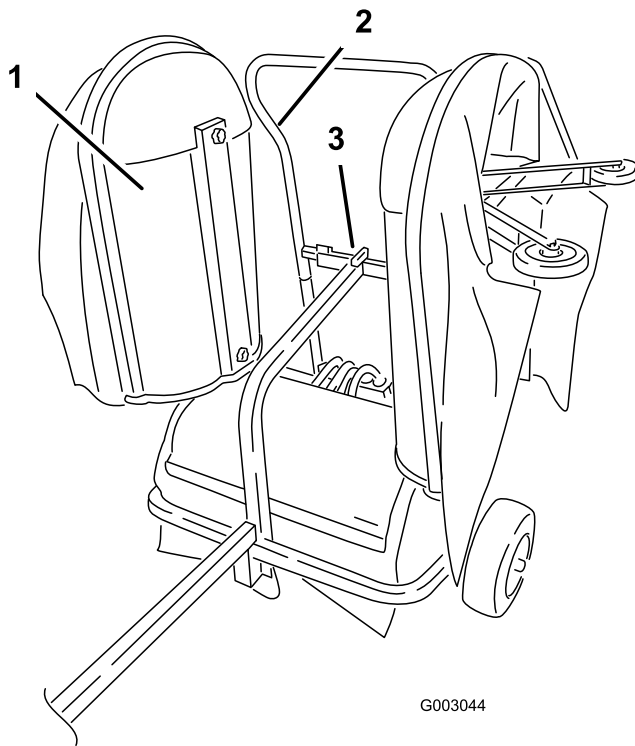

Figure 6
3. With the wheel in the holder pivot the walking boom forward so that the detent pins in the handle find the holes in the cross bar and the trailer latch snaps into place around the bar of the handle (Figure 6).